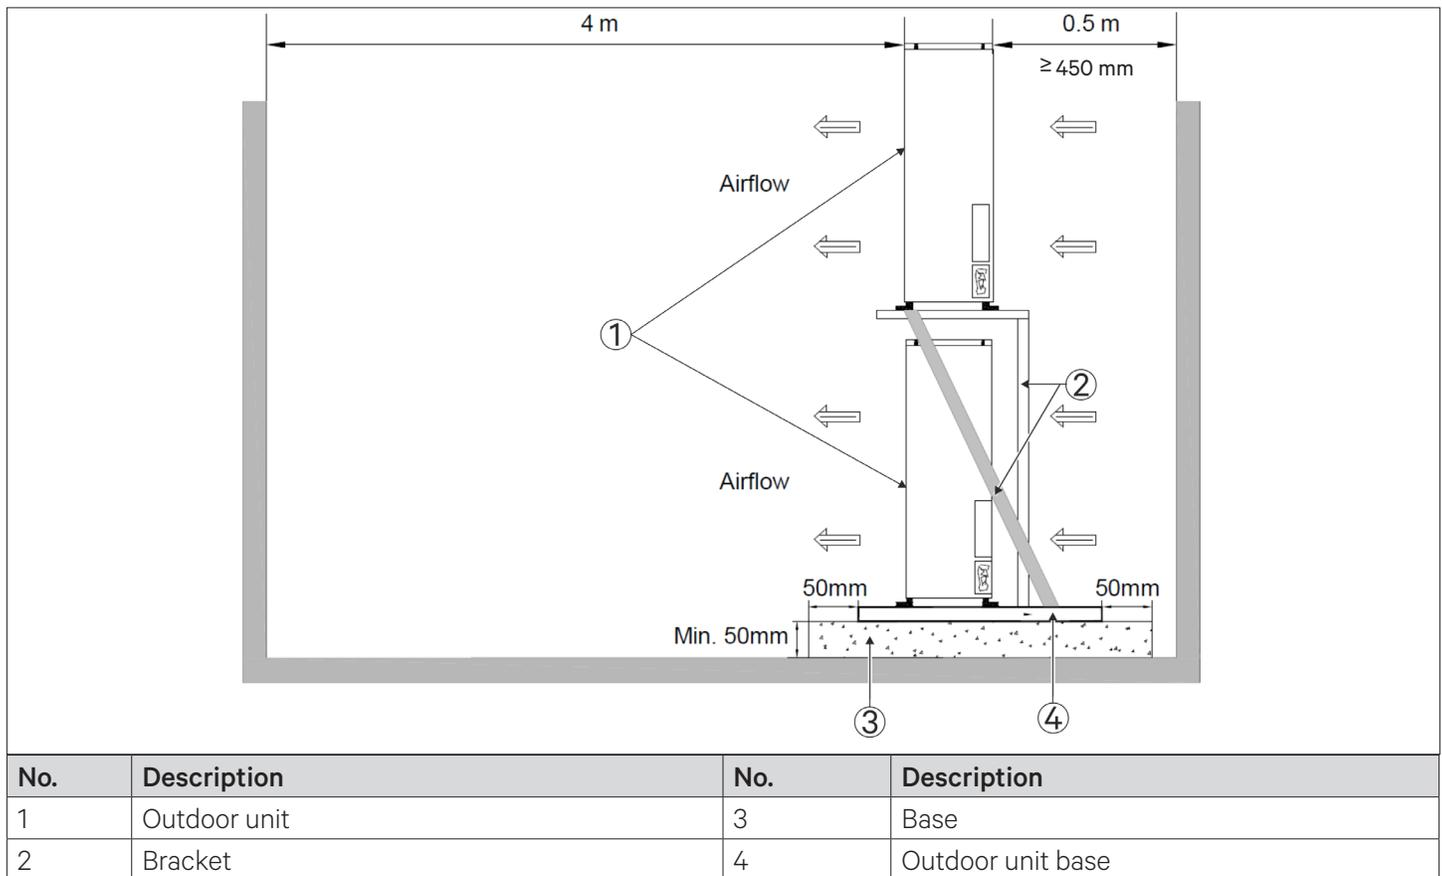

Figure 2-14 Vertical Installation of Multiple Outdoor Units with One above the Other
- Prepare a strong solid base capable of supporting the outdoor unit weight (see Table 2-2). The base should be at least 50 mm higher than the installation floor and 50 mm more than the dimensions of the outdoor unit base, as shown in Figure 2-14.
Figure 2-14 shows the vertical installation of the multiple outdoor units one above the other.